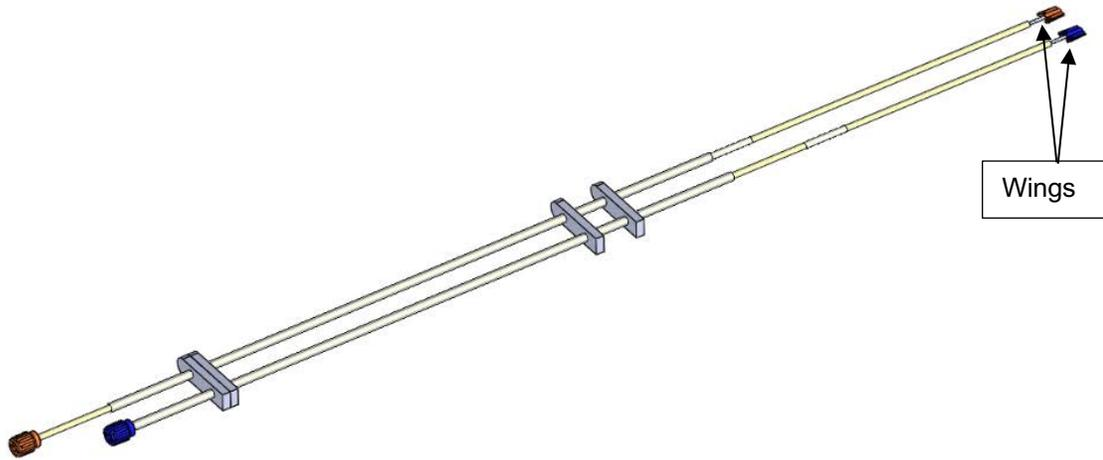

Figure 97: Thumbwheel Extension
1. Remove the Thumb Wheel Extension Set from its sterile barrier package. **See Figure 97.**